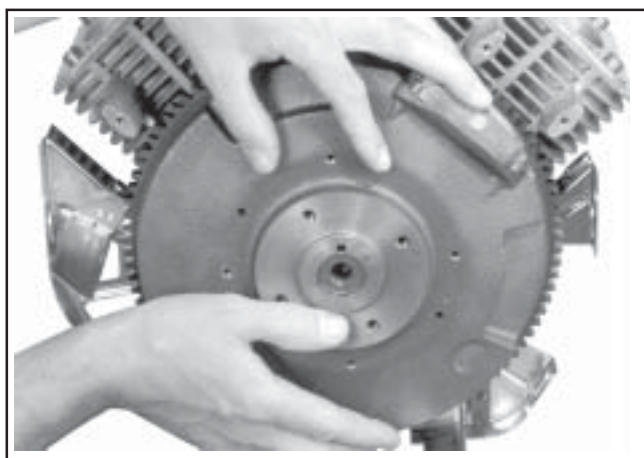

Figure 11-24. Carefully Align Keyway to Key.
2. Install the flywheel onto the crankshaft being careful not to shift the woodruff key. See Figure 11-24.